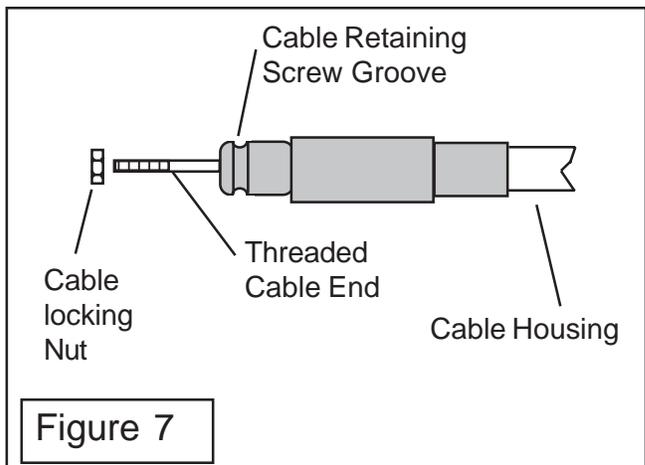
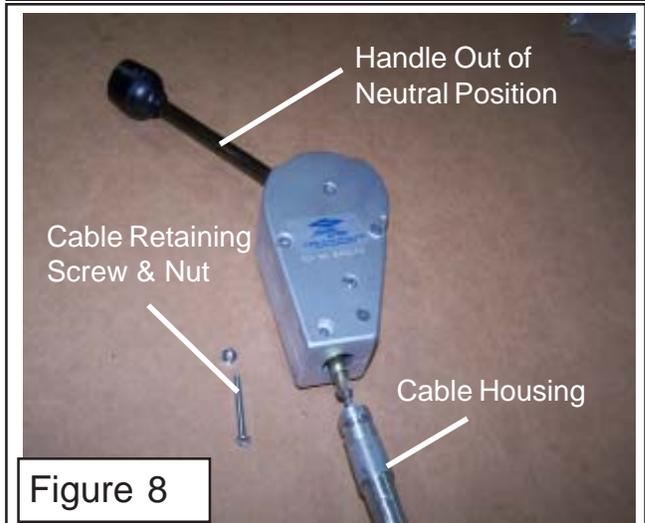
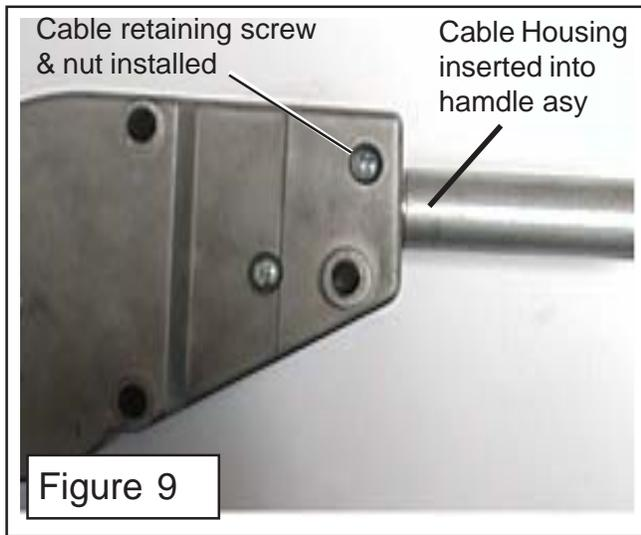

Figure 7
Figure 8
Figure 9
**10. Connect Cable to Control Handle.** Install the cable locking nut onto the threaded cable (See Figure 7), screw the nut on leaving enough threads to fully screw the control handle to the cable. Push the handle of the control assembly all the way to one side and the threaded shaft of the handle will be visible at the bottom (See Figure 8). After the handle is screwed onto the cable, tighten the cable locking nut against the handle control. Push the control handle to the straight position (See Figure 9), while pushing the cable into the handle assembly until the groove in the cable housing is aligned with the retaining screw hole of handle housing assembly insert the retaining screw and nut (See Figure 9)